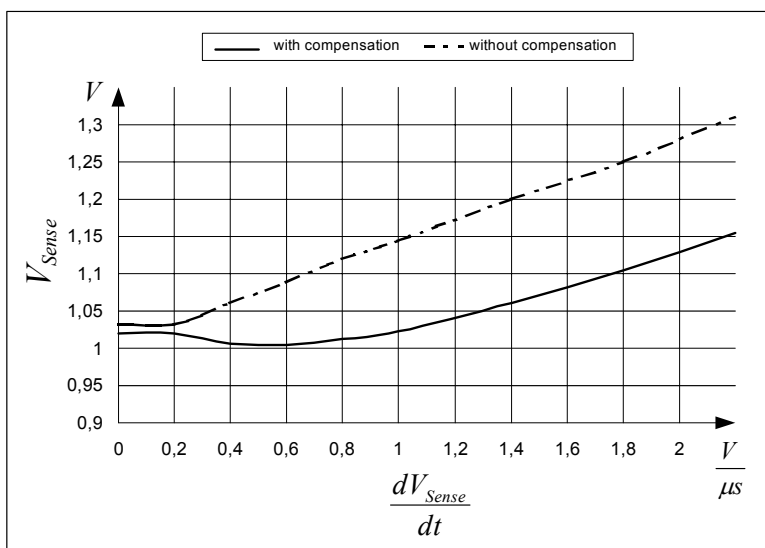

Figure 14 Propagation delay compensation curve
The maximum power of the system is changed with the input voltage; higher voltage got higher maximum power. This is due to the propagation delay of the IC and the different rise time of the primary current under different input voltage. The propagation delay time is around 200ns. But if the primary current rise time is faster, the maximum power will increase. The power difference can be as high as >14% between high line and low line. In order to make the maximum power control become tight, a propagation delay compensation network is implemented so that the power difference is greatly reduced to best around 2%. Figure 14 shows the compensation scheme of the IC. The equation (8) explains the rate of change of the current sense voltage is directly proportional to the input voltage and current sense resistor. For a DCM operation, the operating range for the dV_{sense}/dt is from 0.1 to 0.7. It can show in Figure 14 that higher dV_{sense}/dt will give more compensation; i.e. lower value of V_{sense} .